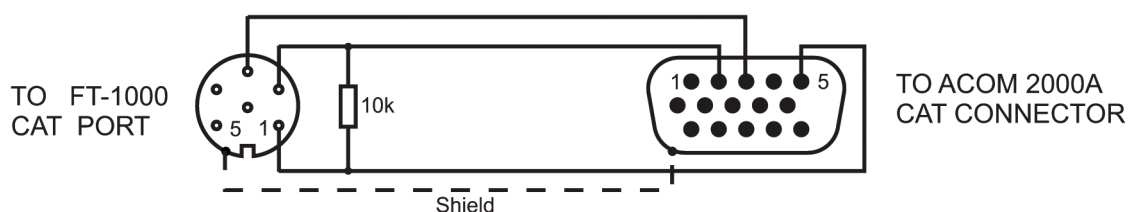

Fig. 7-8 CAT Connection to YAESU FT-1000D
-**YAESU FT-990, FT-1000, and FT-1000D** You will need a 6-pin DIN connector, 3 wire shielded cable and a 10k pull-down resistor as shown on Fig 7-8.